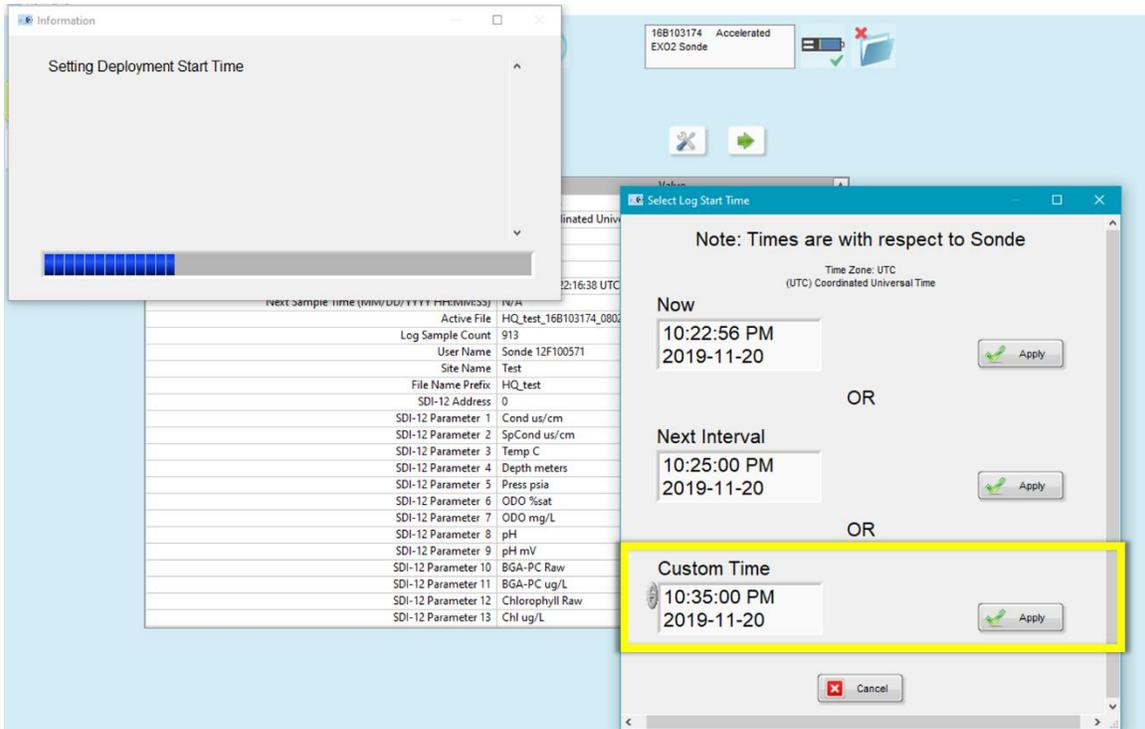

Figure 8. Select a Custom Time ~10 Minutes from the Current Time to Start on an Even 5 Minute Interval
- When the **Select Log Start Time** window appears, select a custom time approximately 10 minutes in the future from the current time (**Now**) to start data collection on an even five (5) minute interval and click **“Apply”** (**Figure 8**).